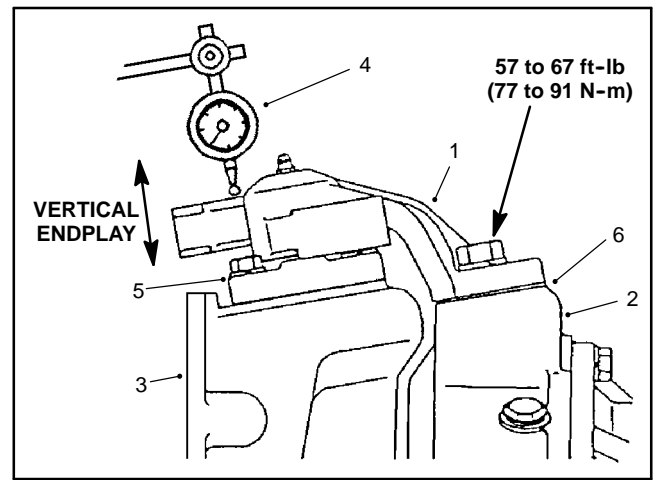

Figure 24
C. Use dial indicator to measure vertical endplay of axle case (Fig. 24).